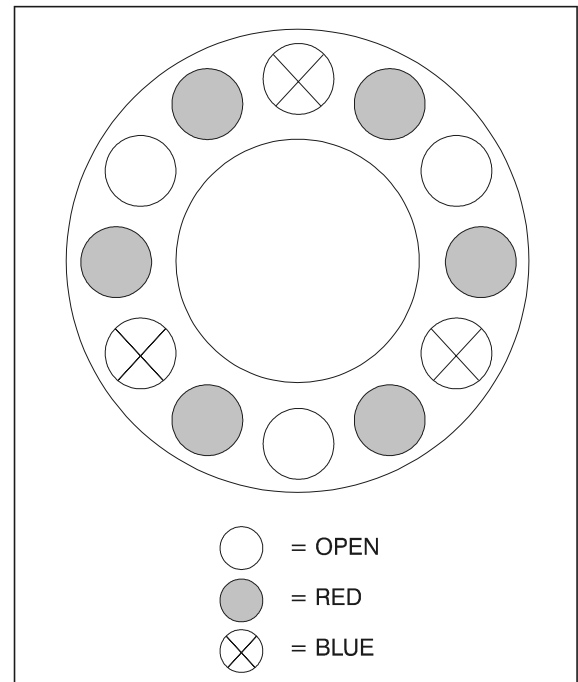

Figure 2-36. Spring Loading
2. Press new rotary oil seal (1) into housing (7). Note direction of seal.
3. Install new bearing (2) and retaining ring (15) on shaft (4).
4. Insert shaft assembly and retaining ring (3) in housing (7).
5. Insert dowel pins (17), spring guide (16) and springs (5,6) in housing (7) as shown in Figure 2-36., Spring Loading.